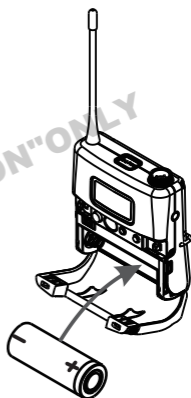

Fig. 27
2. Insert one 18500 type lithium battery according to correct polarity, Fig. 27.